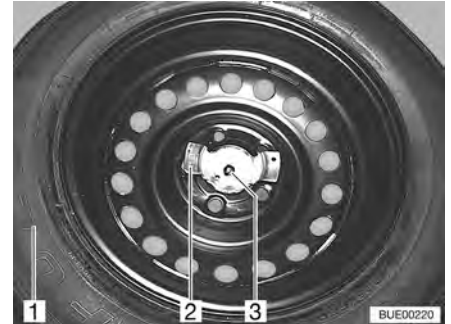

Fig. 222 Spare wheel fixture
- Unscrew both nuts (Fig. 222,2 and 3).
- Remove the spare wheel (Fig. 222,1) from the spare wheel support.